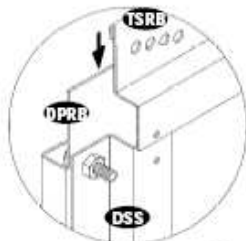
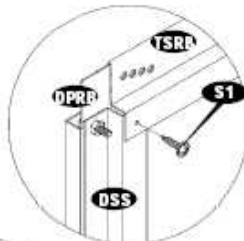

Fig.1
Fig.2
4. Assemble the door panel strip (TSRB) with door panel. Make sure the door panel top edge to be inserted into the (TSRB). See fig.1. Secure the (TSRB) to the (DSS) with (S1) screws. See fig.2. Secure the other end through the door panel to the (DSCB) with (S1) screws. See fig. 3.